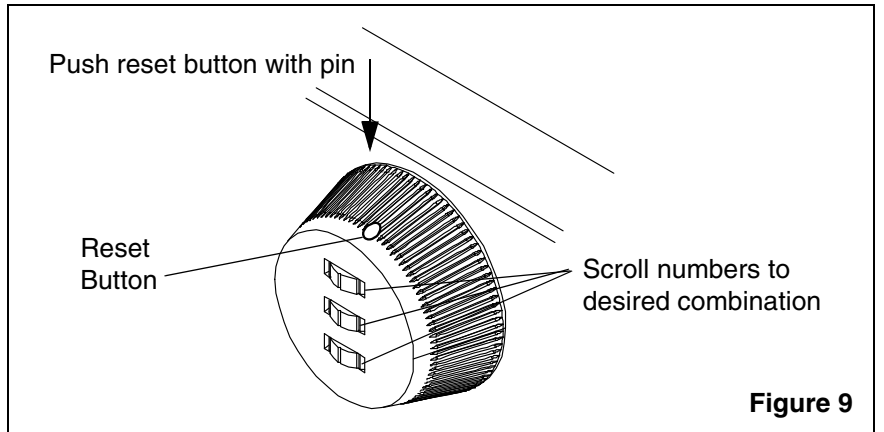

Figure 9
- Push reset button with pin. (Figure 9)
- While reset button is pushed, scroll numbers to the desired combination. (Figure 9)